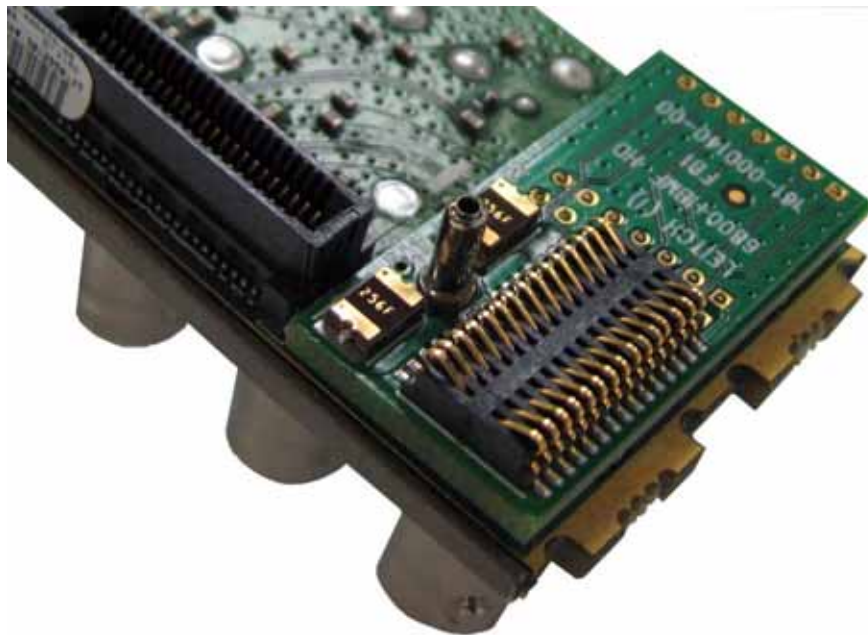

Figure B-1. Typical Back Module Spring Connector
- c. Inspect the 20- or 30-pin spring connector at the bottom of the back module (Figure B-1 on page 90), and verify that the connector does not have any slightly bent or pressed pins.
- c. Inspect the spring connector at the bottom of the back module (Figure B-1), and verify the connector does not have any slightly bent or pressed pins.